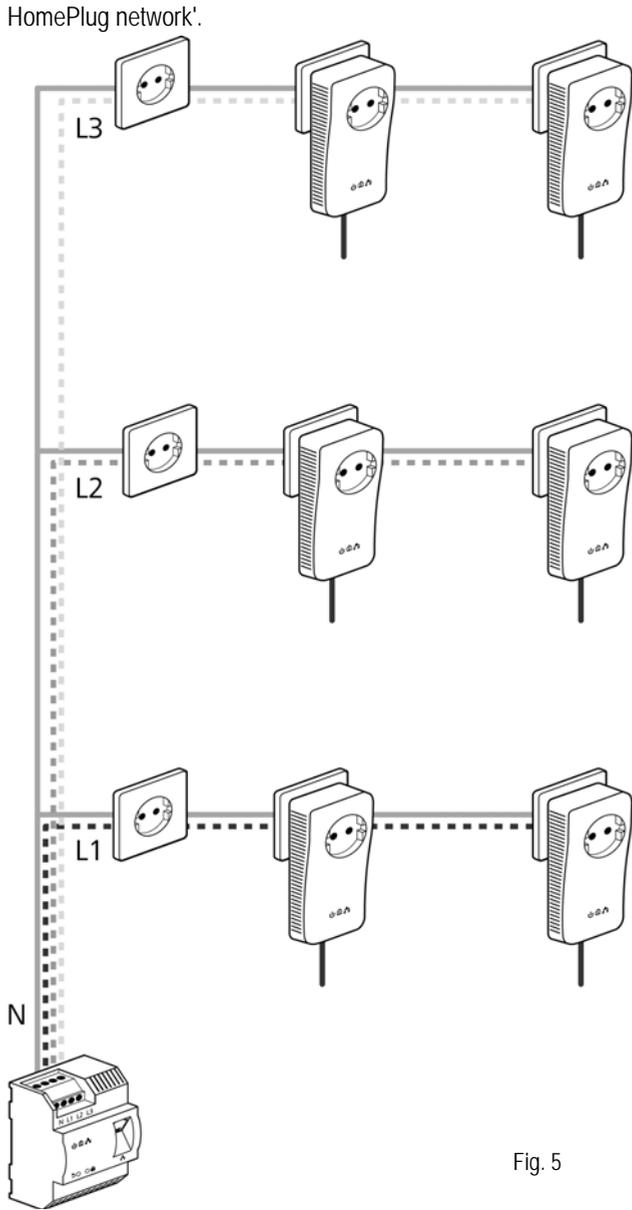

Fig. 5
- Three-phase connection: Neutral conductors and external conductors are connected to terminals N and L1. The connection of external conductors L2 and L3 is optional and intended for optimising the signal transmission. The device is supplied with power via terminals N and L1 (see Fig. 5).